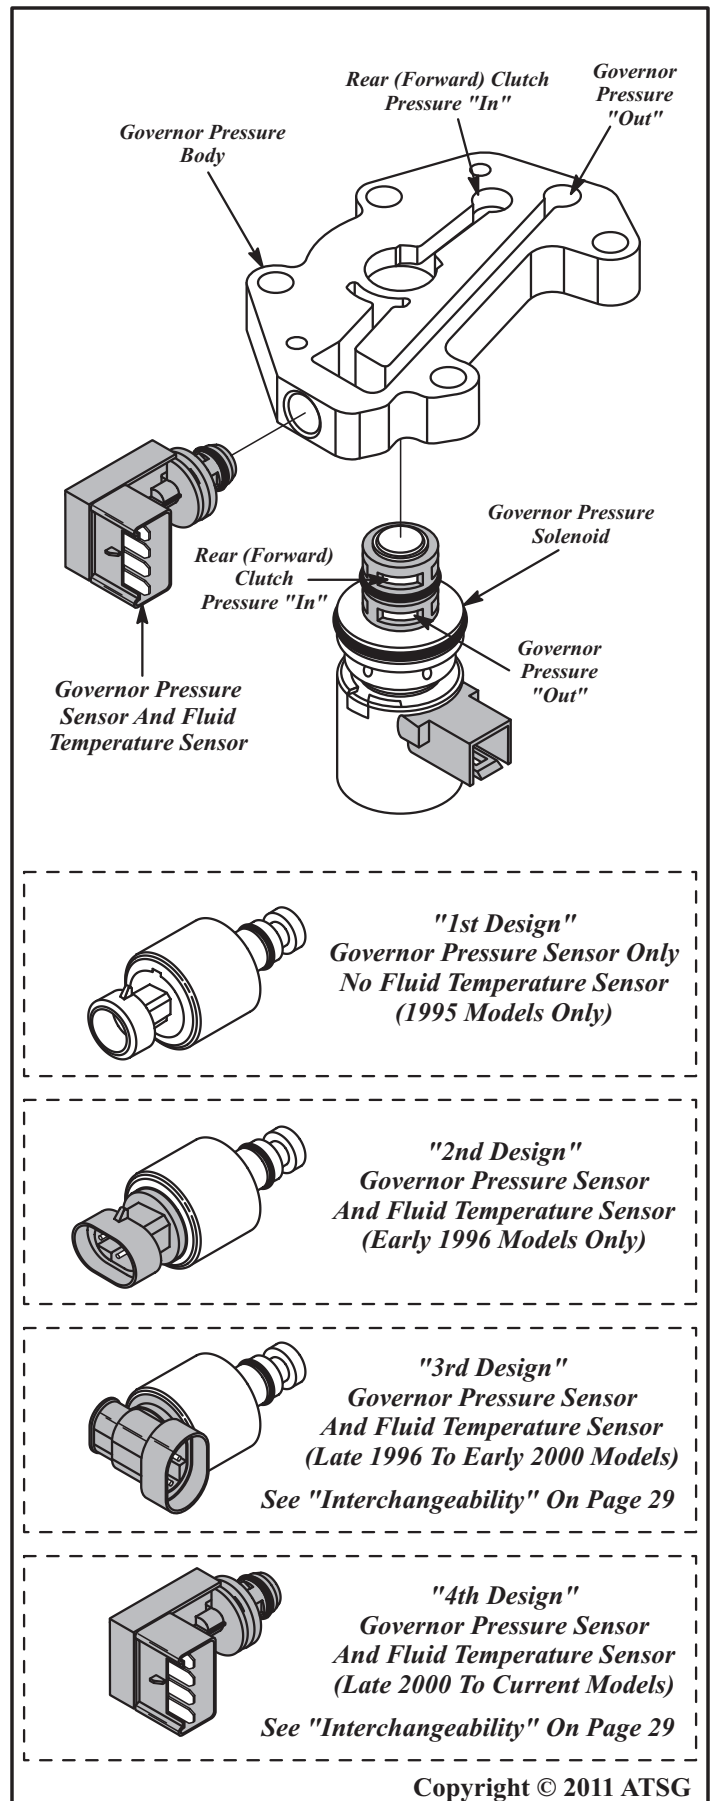

Figure 48
Another point to remember is that the governor pressure control solenoid is no different than a typical line pressure control solenoid in that when it is unplugged, high pressure occurs. Therefore, whenever the case connector on any RE unit is unplugged, governor pressure should reach approximately 60 psi at idle *with the selector lever in DRIVE*, as rear (forward) clutch oil is used to feed the governor pressure solenoid (See Figure 48). If pressure stays low with the connector unplugged, there is an internal transmission problem. The possibilities could be a defective governor solenoid, the screen on the solenoid inlet port is clogged, the overdrive piston support to case gasket is damaged or installed improperly, or an A500/518 overdrive piston support was improperly installed. The governor pressure solenoid measures approximately 3 to 5 ohms in resistance as with any typical pressure control solenoid.
**NOTE: There have been 4 different design governor pressure sensors used and not all will interchange. Three of them have the TFT sensor incorporated in the governor sensor itself, but all governor sensors operate as described above. Refer to Figure 48. This in no way changed any of the case connector pin functions.**